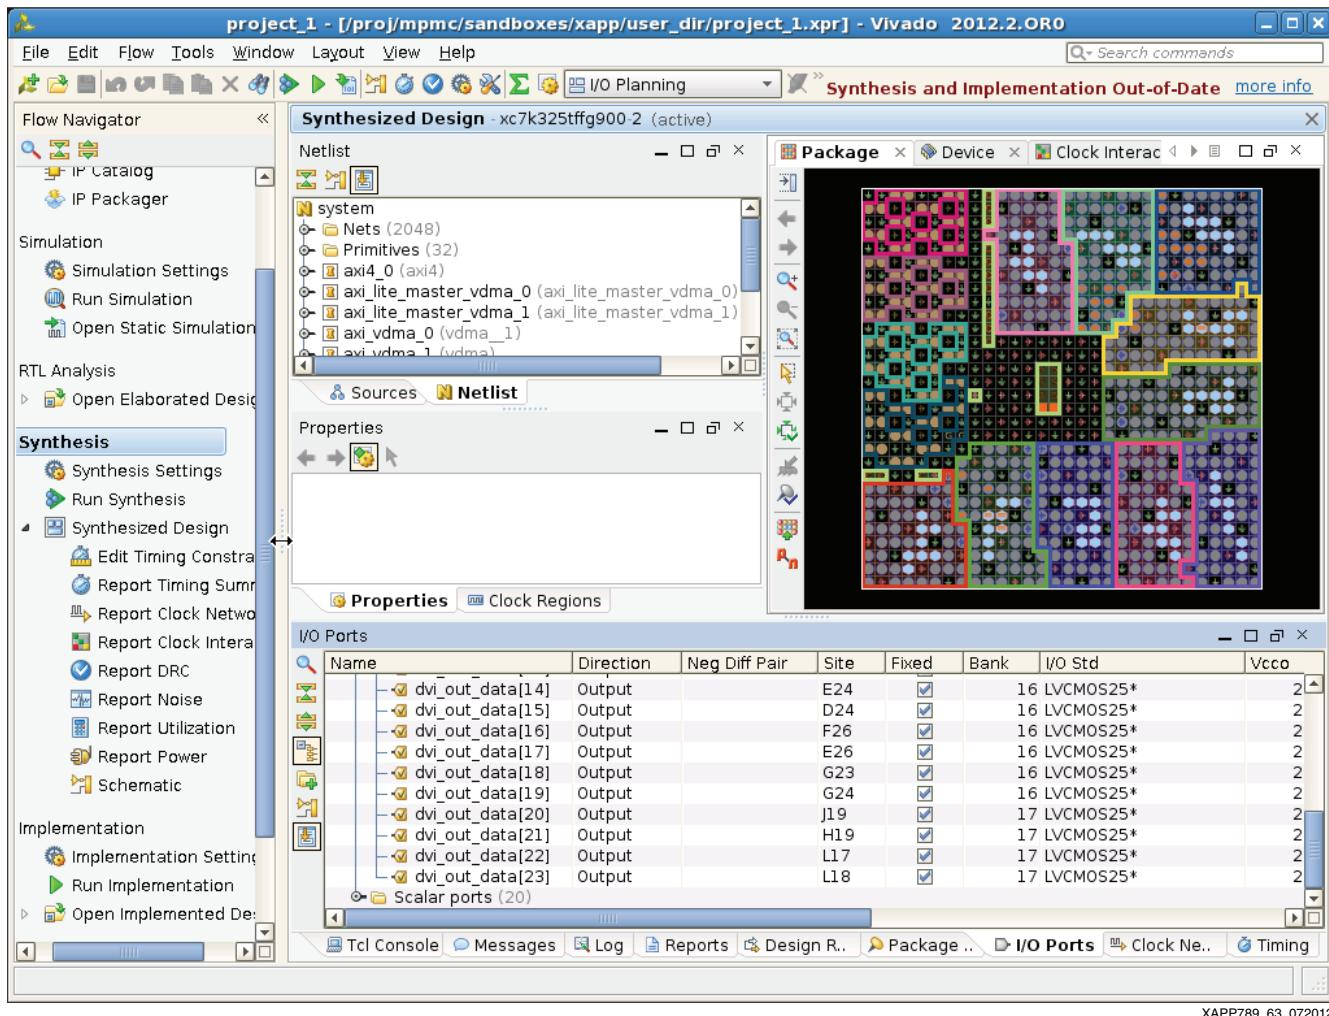

Figure 63: I/O Planning Layout
64. Select **Layout > I/O Planning** to get to the I/O Planning view (Figure 63). This view can be used to set the location constraints for non-DDR3 related I/O pins in a custom board.